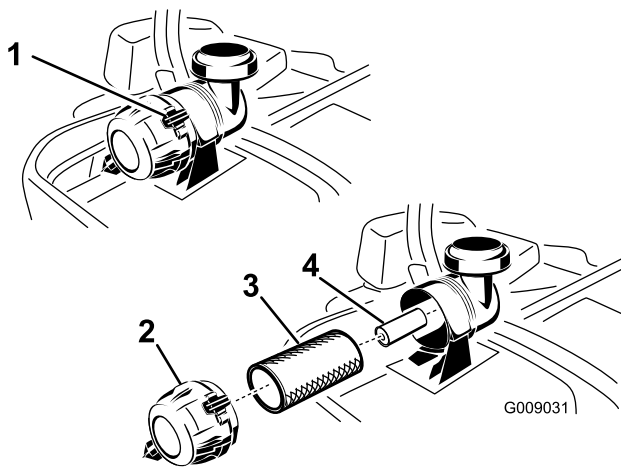

Figure 44
3. Push down to release the retaining clamps on the air cleaner and pull the air cleaner cover off of the air cleaner body (Figure 44).
5. Gently slide the primary filter out of the air cleaner body (Figure 44). Avoid knocking the filter into the side of the body.
1. Do not clean the paper filter, replace it (Figure 44).
2. If the secondary filter is being replaced, carefully slide it into the filter body (Figure 44).
3. Carefully slide the primary filter over the secondary filter (Figure 44). Ensure that it is fully seated by pushing on the outer rim of the filter while installing it.
4. Install the air cleaner cover with the breather cap down and rotate so the retaining clamps lock the cover in place (Figure 44).